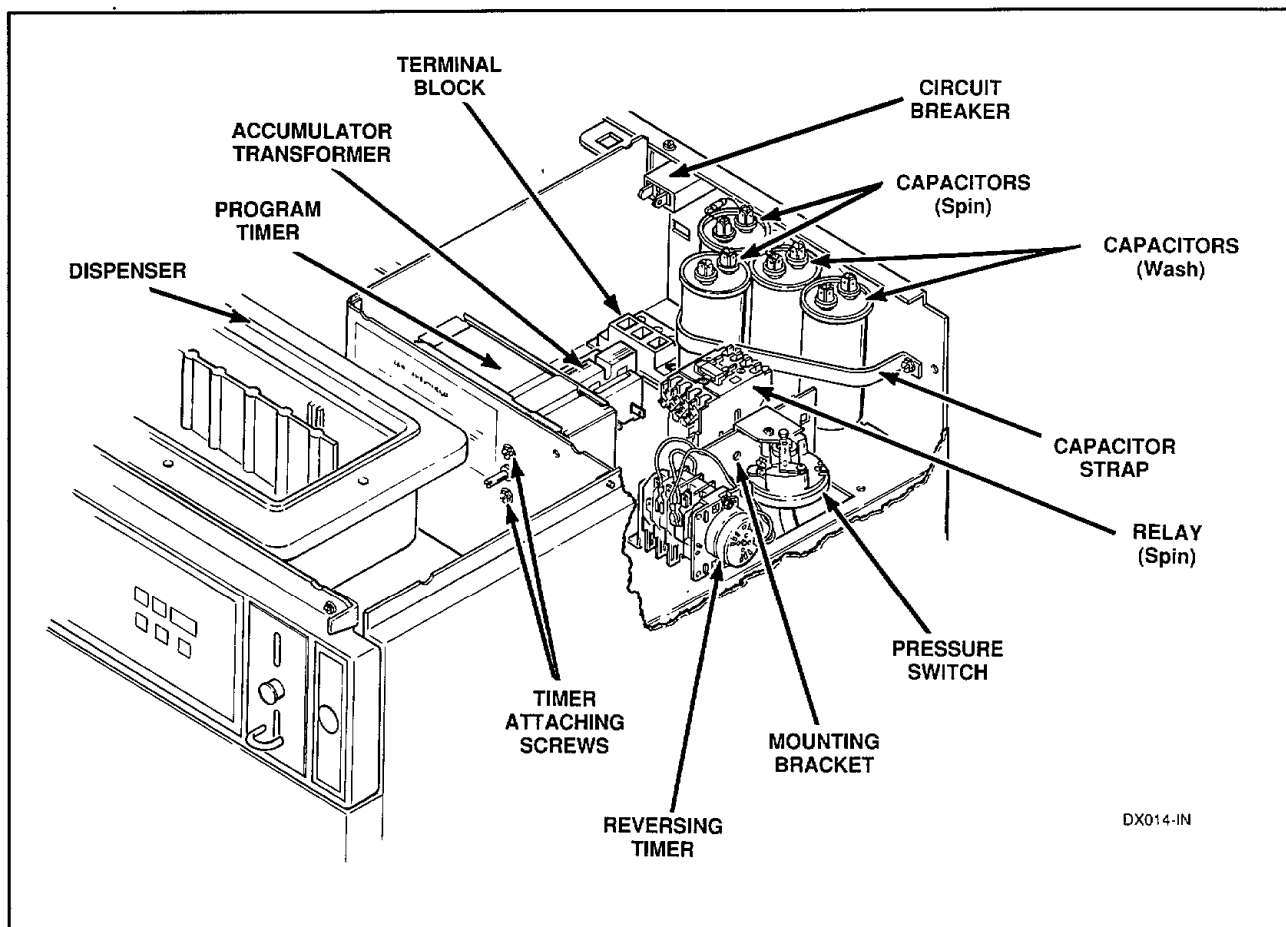

Figure 15
- Remove two screws and washers holding timer to control tray, *Figure 15*.
NOTE: When installing timer, be sure timer is installed correctly and is mounted firmly to the control tray, *Figure 15*.
- e. Remove two screws and lockwashers holding timer to mounting brackets (located inside control tray), *Figure 15*.
- e. Remove nut holding circuit breaker to rear cross channel, *Figure 15*.
- e. Remove Phillips head screw holding pressure switch to mounting bracket on control tray, *Figure 15*.
- f. Remove two screws holding relay to control tray, *Figure 15*.
- e. Remove two screws holding transformer to control tray, *Figure 15*.
- f. Remove screw holding capacitor strap to rear cross channel, *Figure 15*.
- f. Loosen hose clamp and remove hose from underside of dispenser and remove dispenser, *Figure 15*.